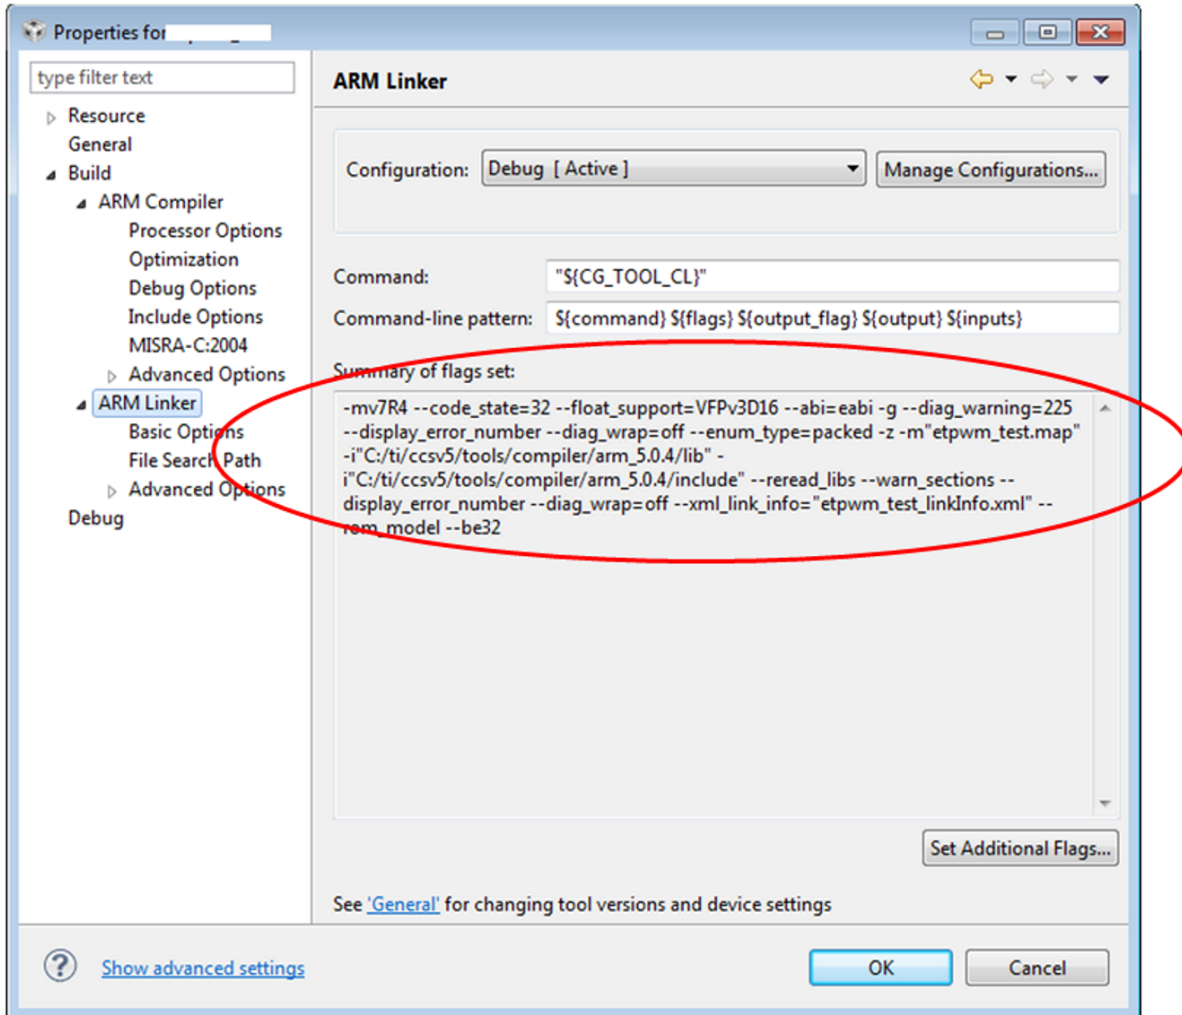

Figure 16. Linker Option Select
- ARM linker options can be obtained from Code Composer Studio as shown in Figure 16 (Step 2).